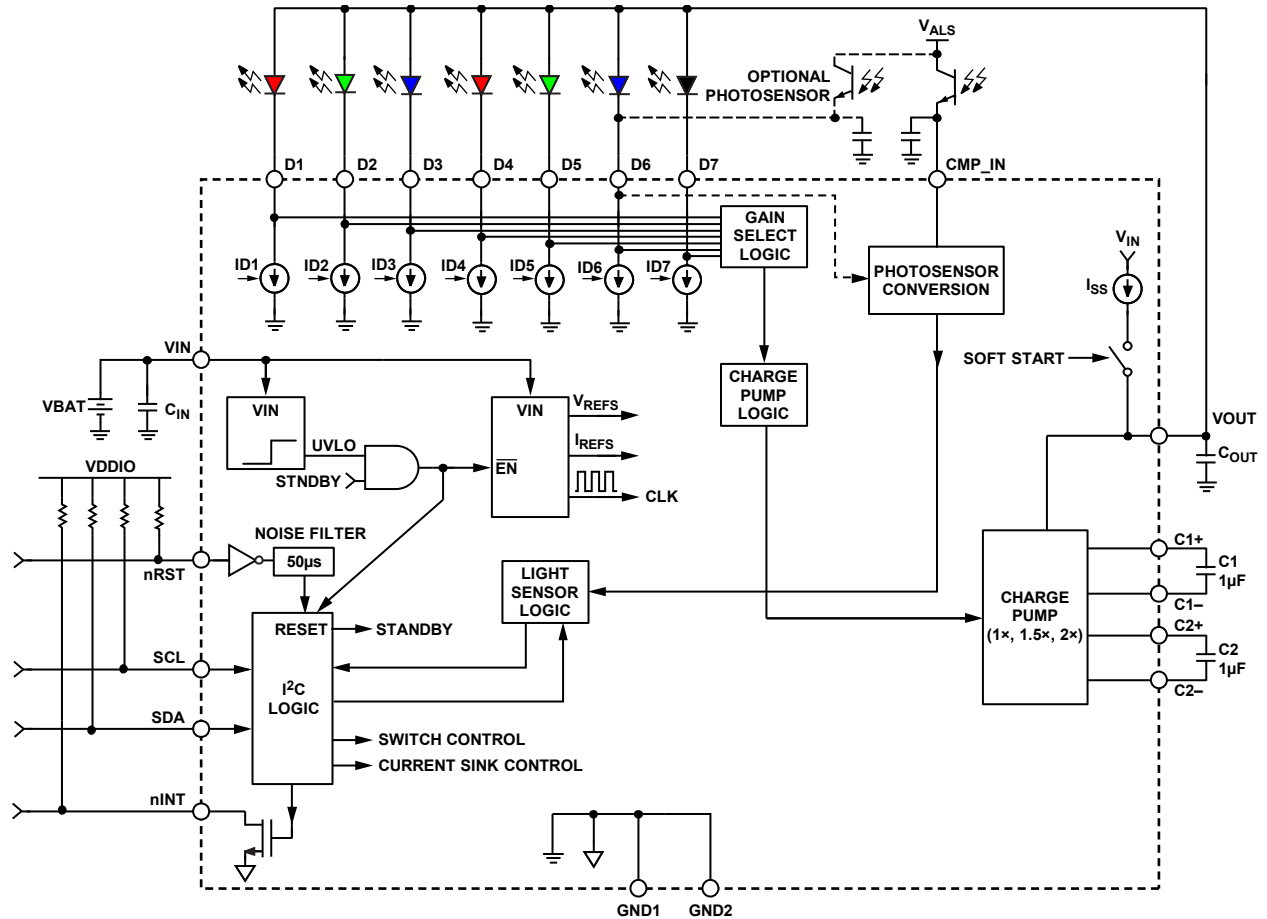

Figure 26. Detailed Block Diagram
By charging the capacitors in different configurations, the charge, and therefore the gain, can be optimized to deliver the voltage required to power the LEDs. Because a fixed charging and discharging combination must be used, only certain multiples of gain are available. The ADP8863 is capable of automatically optimizing the gain (G) from 1×, 1.5×, and 2×. These gains are accomplished with two capacitors (labeled C1 and C2 in Figure 26) and an internal switching network.